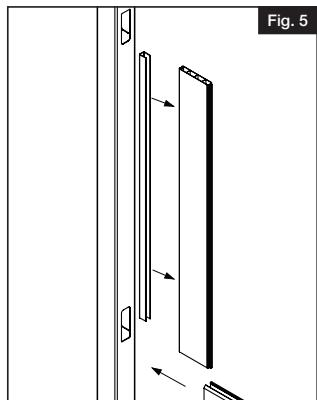

Fig. 5
- b. Slide/Snap U-Channel onto first tongue and groove board (Fig.5).